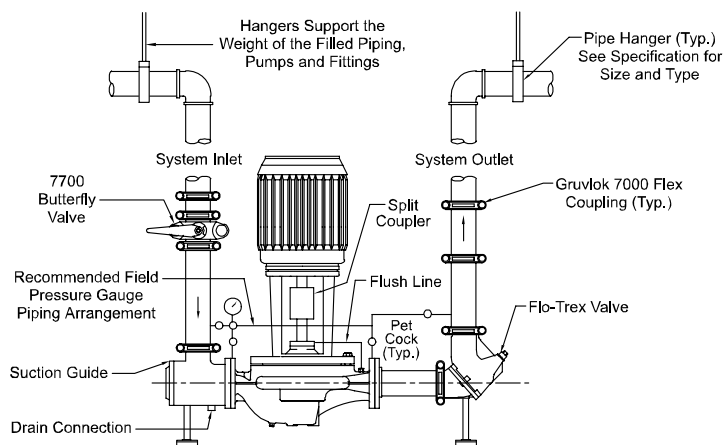

Fig. 2.10 Mounting in grooved pipe systems
- 2.10 Many Vertical In-Line pumps are piped successfully into grooved piping systems. In-line pumps are supported well by grooved piping however flange adapter locking devices or a welded flange at the pump should be used to prevent the possibility of pipe mounted pumps rotating in the piping. Armstrong offers grooved suction guides with cast-in outlet flanges and triple function Flo-Trex valves with inherent locking devices to prevent this possibility. (Fig. 2.10)